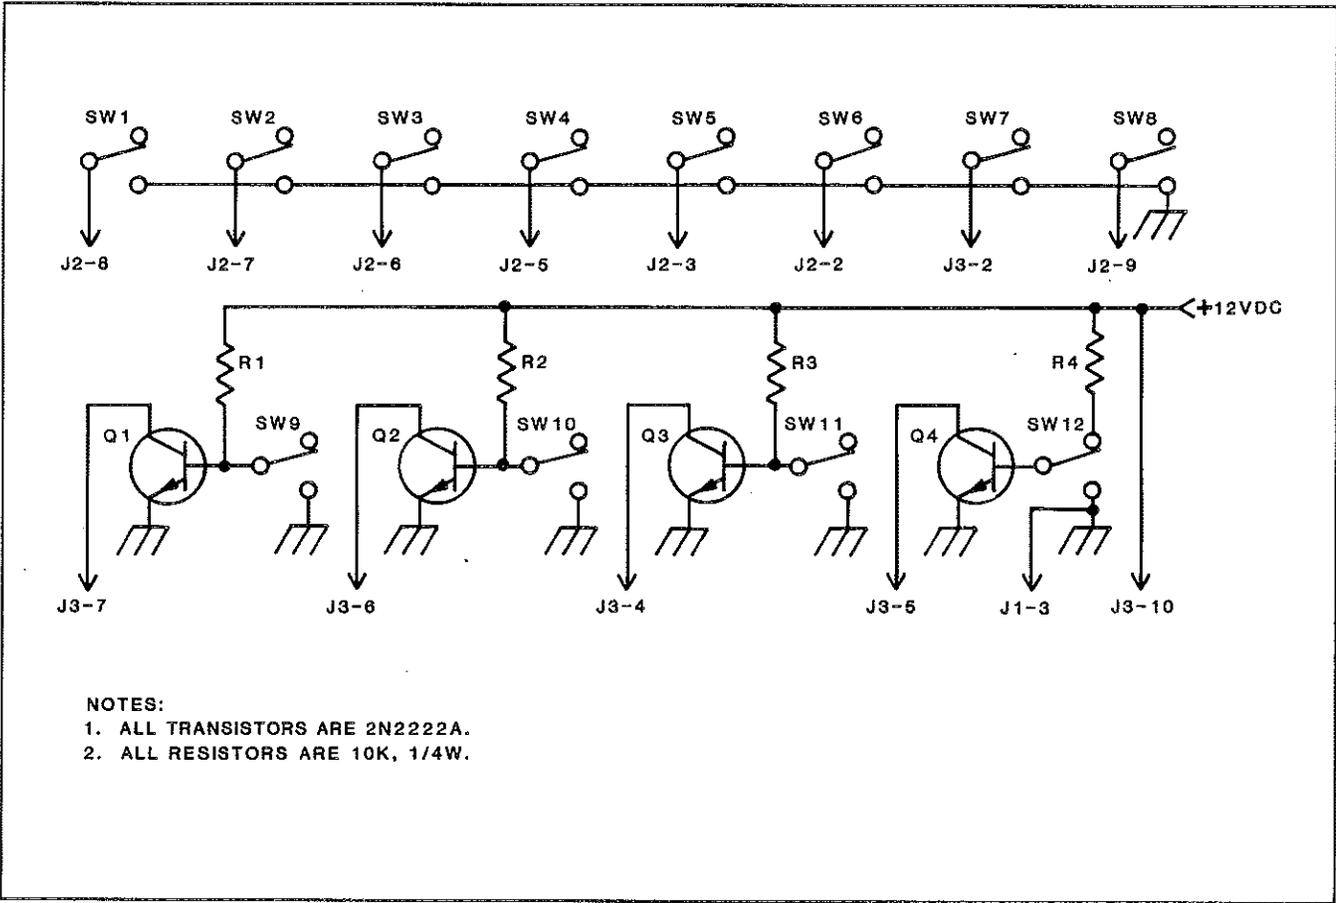

FIGURE 6-2.
3. It is necessary to fabricate a test fixture with 12 switches connected to J1, J2 and J3 as shown in Figure 6-2. This fixture is plugged into the tuner (J1, J2 and J3). Power should be applied (12 Vdc) but no RF tuning power is required.